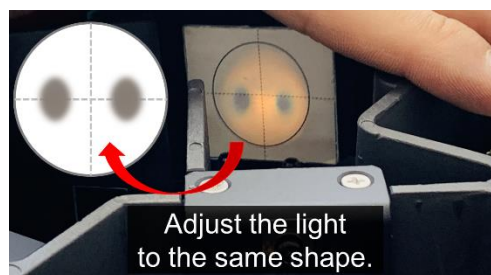

Figure 9. Correct shape and position of the light beam on the paper target.
- d. The light beam can be adjusted by moving/rotating the position of the W lamp (see Figure 9).